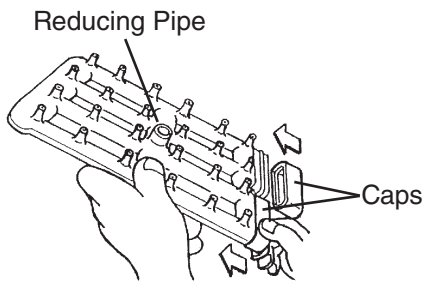

Fig. 44
- 11) Refit the 2 caps in their correct positions. Make sure the reducing pipe is in place in the center. See Fig. 44.